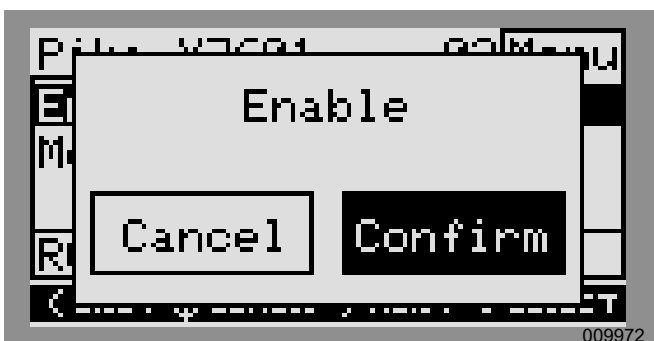

Figure 3-10. Enabling and Disabling Devices (3 of 3)
- See Figure 3-10. Arrow right and press the center button to select Confirm.